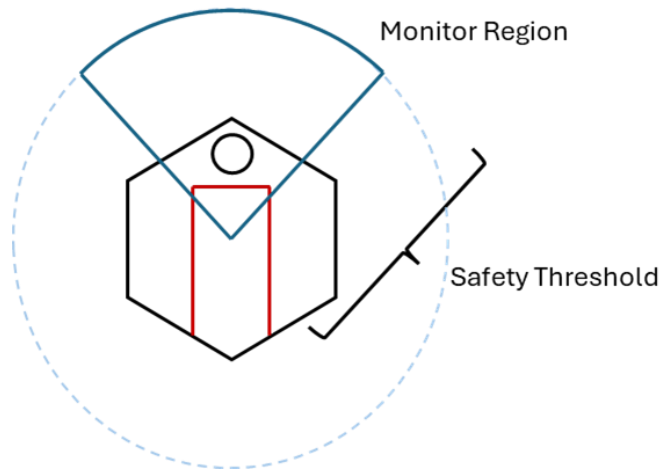

Figure 6. Dynamic Scanning
- Notice that in addition to the LiDAR measurements, QBot body speed commands are also used as input to the function. This is to allow our obstacle detection algorithm to dynamically change monitor region and safety threshold, as shown in Figure 6.